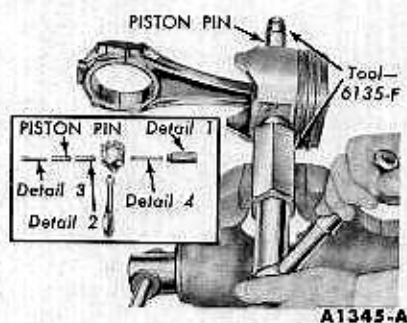
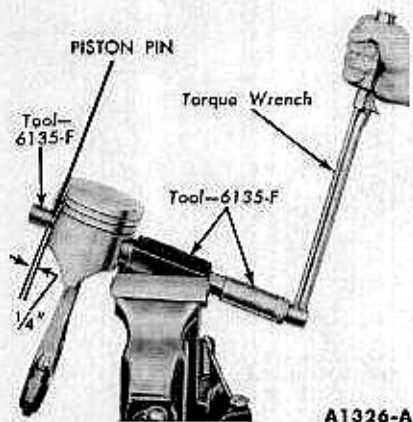

FIG. 27—Piston Pin Installation—Manually
FIG. 29—Checking Interference Torque Required to Seal Piston Pin
2. Start the piston pin in the piston and connecting rod as shown in Fig. 27 or 28. Press the piston pin through the piston and connecting rod until the end of the pin is approximately 1/4 inch from the piston boss (Fig. 29). If a press is used to install the piston pin, remove the piston and connecting rod assembly from the press when the pin is pressed in within 1/4 inch from the piston boss and install it in a vise.
3. Using a torque wrench, tighten the nut on the tool (Fig. 29) until the piston pin is fully seated (until detail 1 has seated against detail 2). A minimum torque limit of 20 foot-pounds is required to fully seat the pin.